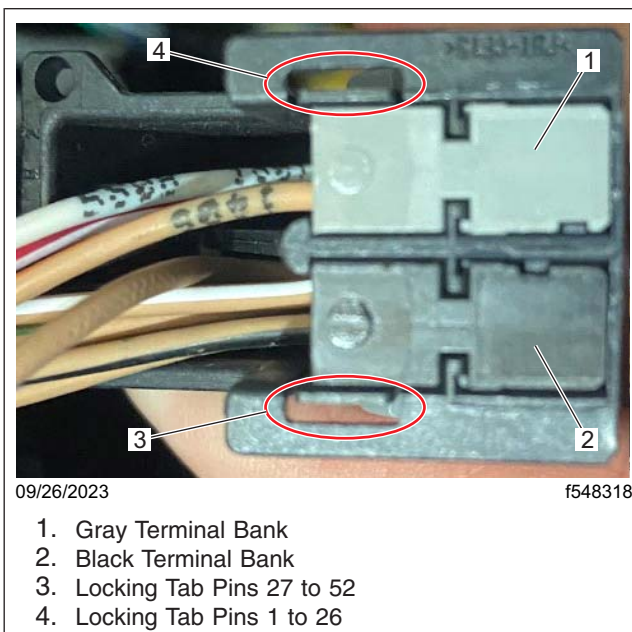

Fig. 50, XMC2 X2 Connector Terminal Bank and Locking Tab Location
- 13.8 Orient the XMC2 X2 connector as shown in Fig. 50. The modular X2 connector has two terminal banks, one gray (pins 1–26) and one black (pins 27–52). Note the locking tab location for the gray terminal bank (pins 1–26). The gray terminal bank has to be removed for the steps that follow.